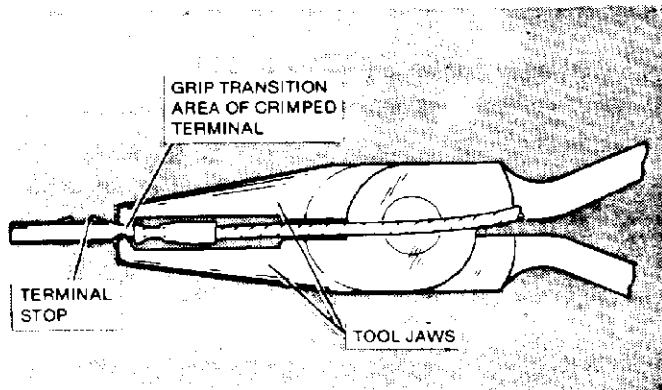

Figure 1
- (b) Grip transition area of crimped terminal with insertion tool as shown in Figure 1.